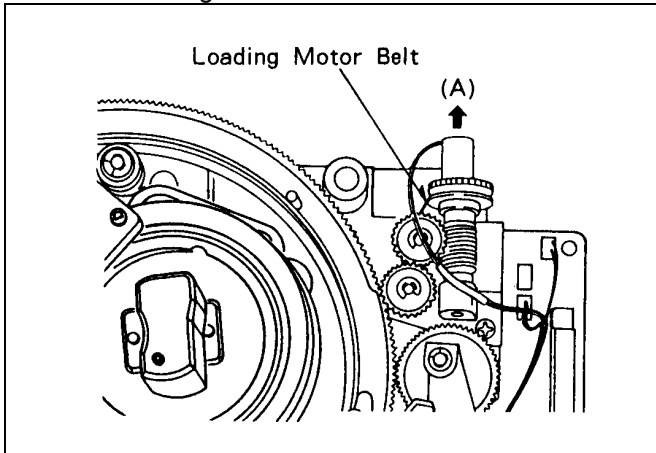

Figure 7-13-1 Loading Motor Belt Removal
3. Remove Loading Motor Belt to direction (A) as shown in Figure 7-13-1.